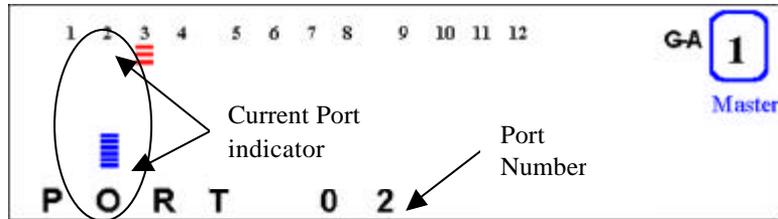

Figure 4.8 Port Indicator Gauge Bars
- 2) Press <Enter> to go to port selection menu and select a port for viewing. In the port selection menu, six units of the gauge bars, below the port number, indicate the current port. The current port number is displayed in the Message Zone, as shown in Figure 4.8.